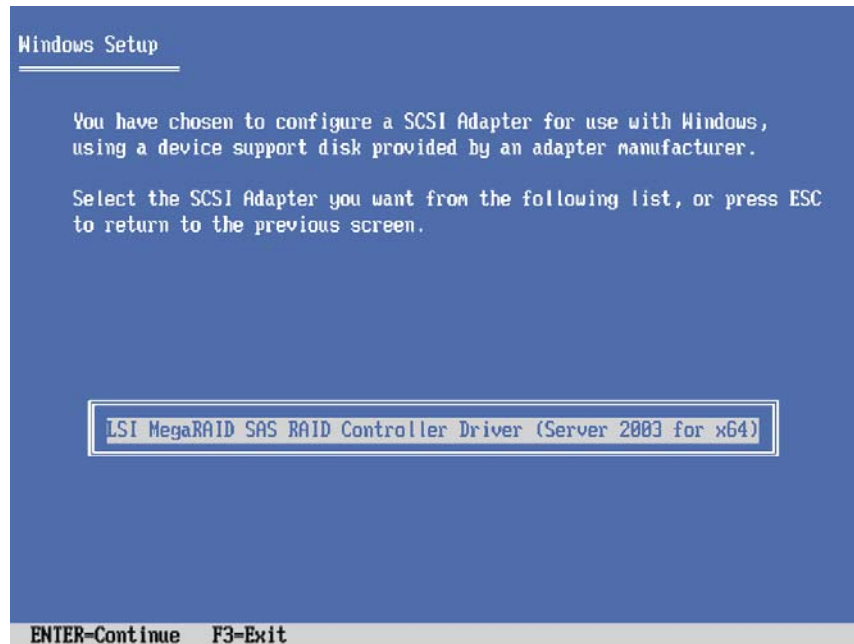

Figure 5-35 Windows Setup detects the LSI MegaRAID SAS RAID Controller Driver
4. Insert the driver diskette for the disk controller. See Figure 5-35. The LSI MegaRAID SAS RAID Controller driver files for the ServerRAID MR10k SAS/SATA Controller should include the following files: